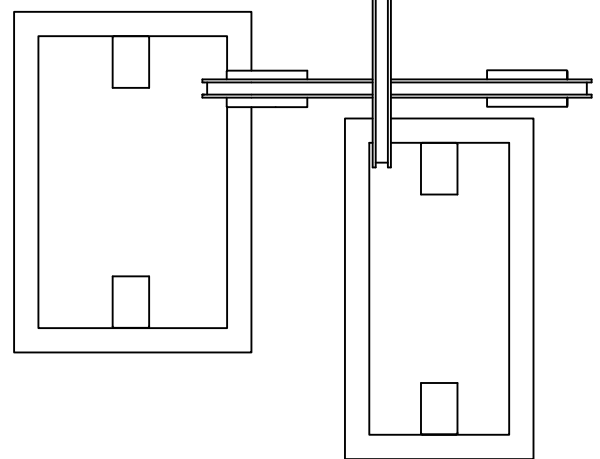

FIGURE-03
4. Hang the fixture to the swivel holder. Make sure to fit the groove of the swivel ball to the tongue of the swivel holder. Then attach the SAFETY CABLE to the building or structure or brace. (See figure-03)